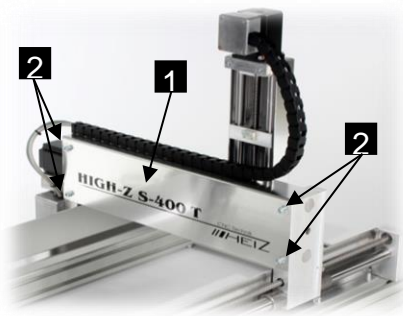

Fig. 34: Cover Y-axis Ball nut X-axis
- 2 Loosen and remove the four screws (Fig. 34/2)
- 3 Cover (Fig. 34/1) to remove the Y-axis.